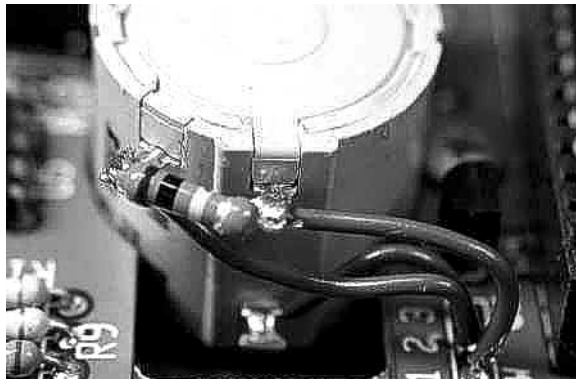

Figure 1
- D. On the back side of the board, locate the "1" and "2" pads of R1 (VFO pot). Solder the resistor between the two lugs of the VFO pot that are connected to these pads (see Figure 1).